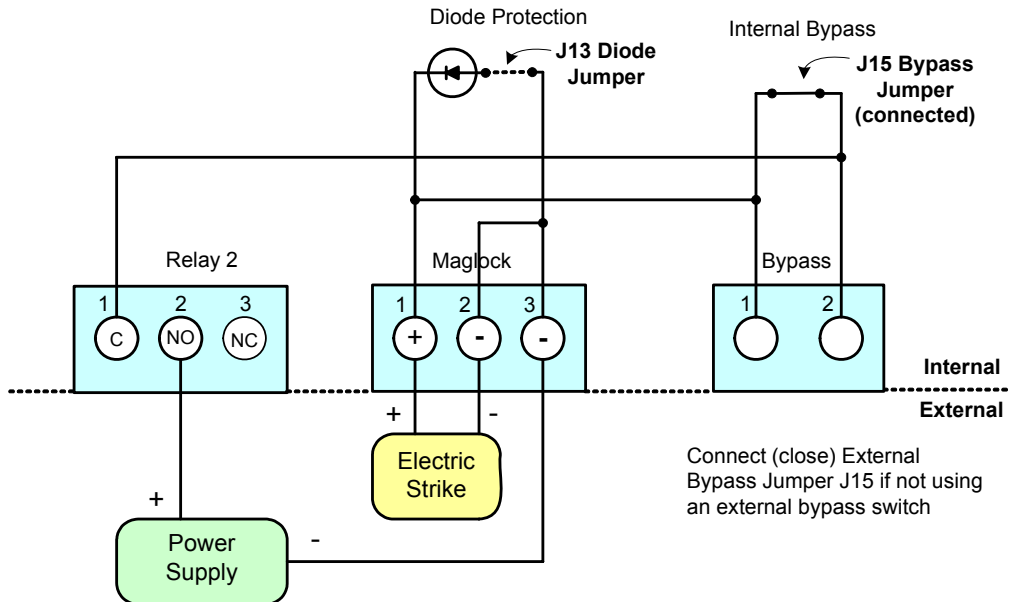

Figure 4.11: RM-4E Electric Strike Wiring – Relay 2 (Fail-Secure Wiring)
The same internal connections that are used for a magnetic lock can be used to wire an electric strike (Figure 4.11). Connect the plus side of the power supply to the normally open (NO) connection of Relay 2 and connect the remaining external connections the same as the magnetic lock.